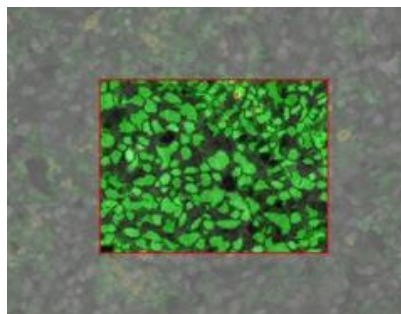

FIGURE 13.19. Live Preview image.
- iii. Click Hide Preview to hide the preview. Click Show Preview to show the preview again. (See Figure 13.19.)